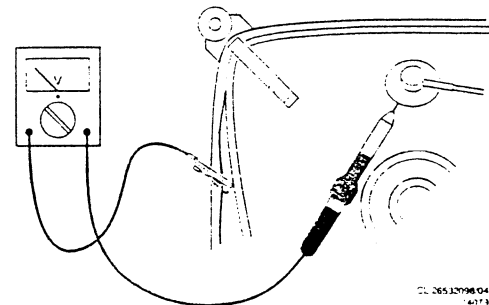

Fig. 3.1
1. In order to prevent damage to IC's and transistors any flash-over of the EHT should be avoided. To prevent damage to the picture tube the method, indicated in Fig. 3.1, has to be applied to discharge the picture tube. Make use of an EHT probe and a universal meter (position DC-V). Discharge until the reading of the meter is 0V (after approx 30s).